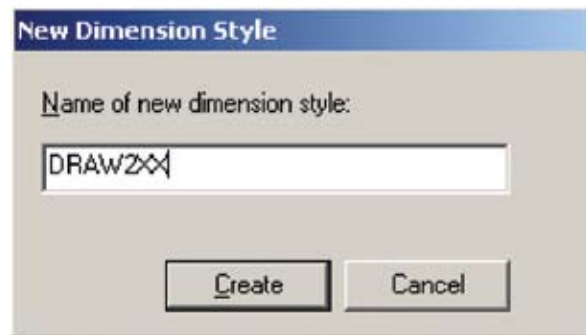

Figure 4.6
- A “Create New Dimension Style” dialog box appears. See Figure 4.6.
- A good suggestion would be to enter the name of the drawing, plus adding xx. The xx represents the accuracy setting of two digits to the right of the decimal place. (Type in Draw2xx.) See Figure 4.6.